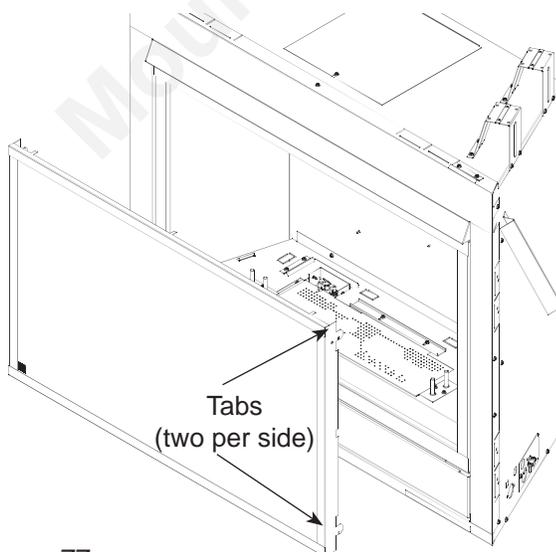
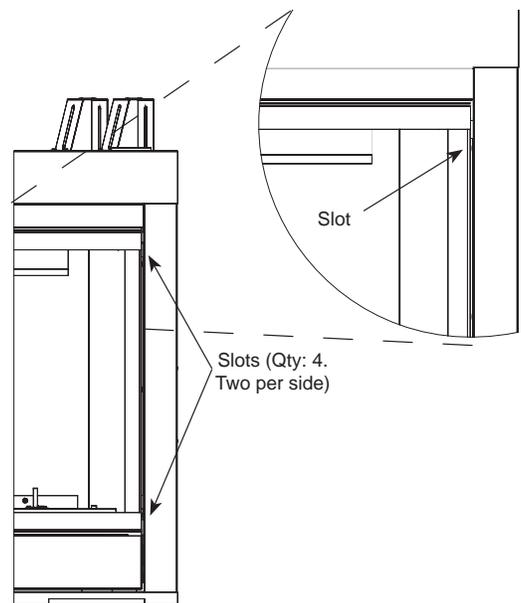

Figure 77
Figure 78
2. Align the four tabs on the sides of the screen frame (two top, two bottom) *Figure 77* with the corresponding slots on the firebox. *Figure 78*.